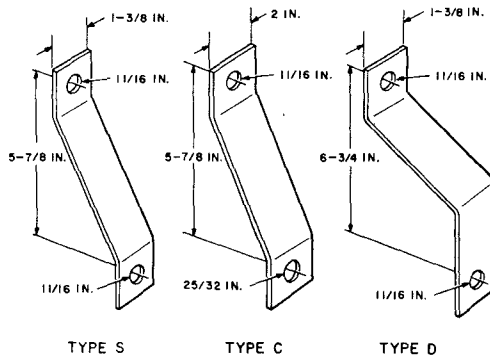

Fig. 7—Reinforcing Straps
6.01 The reinforcing straps shown in Fig. 7 are available in galvanized steel, types S, D, and C.